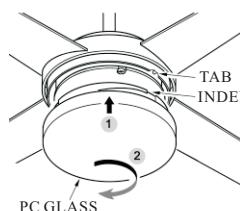

FIG.18
6. Twist on the shade to cover the LED light kit. (see Fig.18)